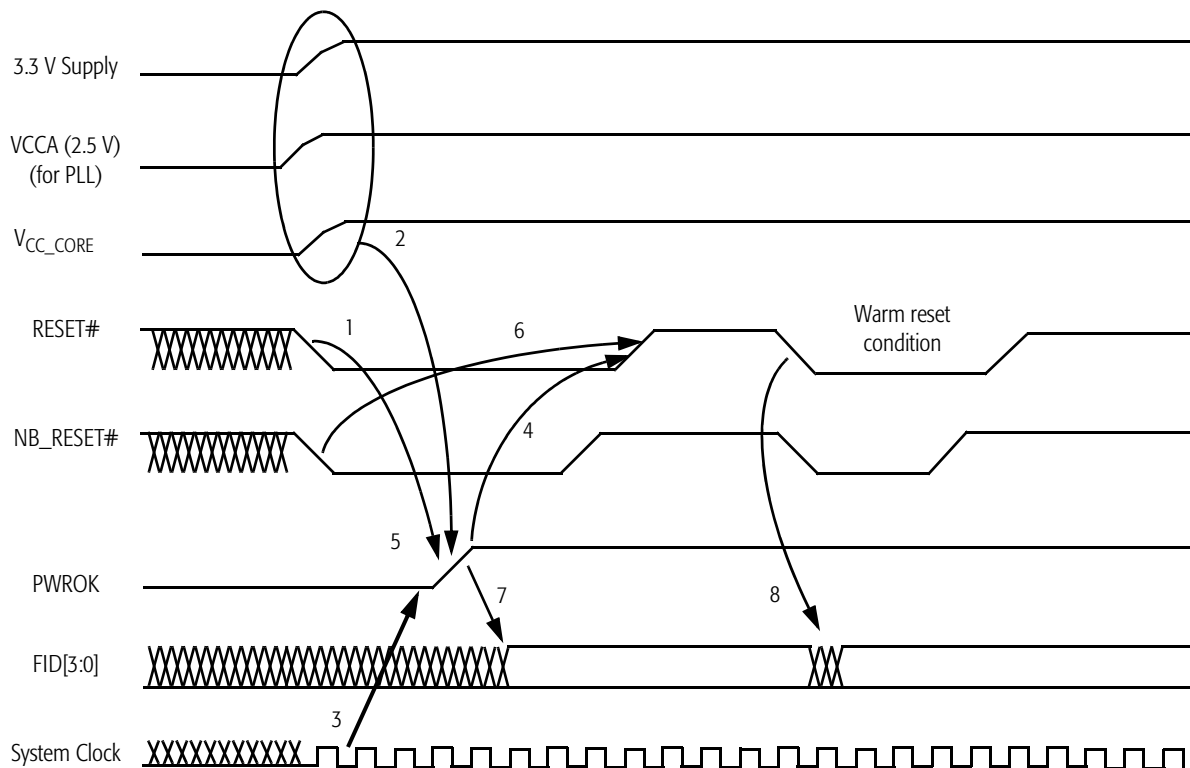

Figure 13. Signal Relationship Requirements During Power-Up Sequence
Figure 13 shows the relationship between key signals in the system during a power-up sequence. This figure details the requirements of the processor.
1. Figure 13 represents several signals generically by using names not necessarily consistent with any pin lists or schematics.
2. Requirements 1–8 in Figure 13 are described in “Power-Up Timing Requirements” on page 44.